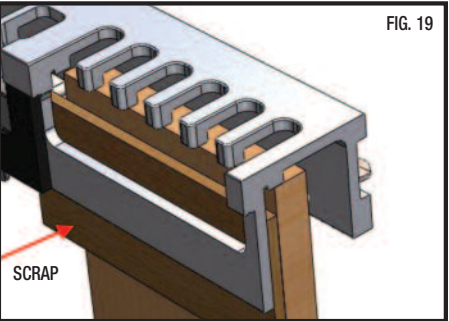

FIG. 21
5. Insert the second board into the jig along with the scrap wood and offset one edge of the board 1/2" from the outside edge of the jig. This spacing will offset the "TAILS" of the second board so that they align with the slots cut into the first board. (FIG. 21)